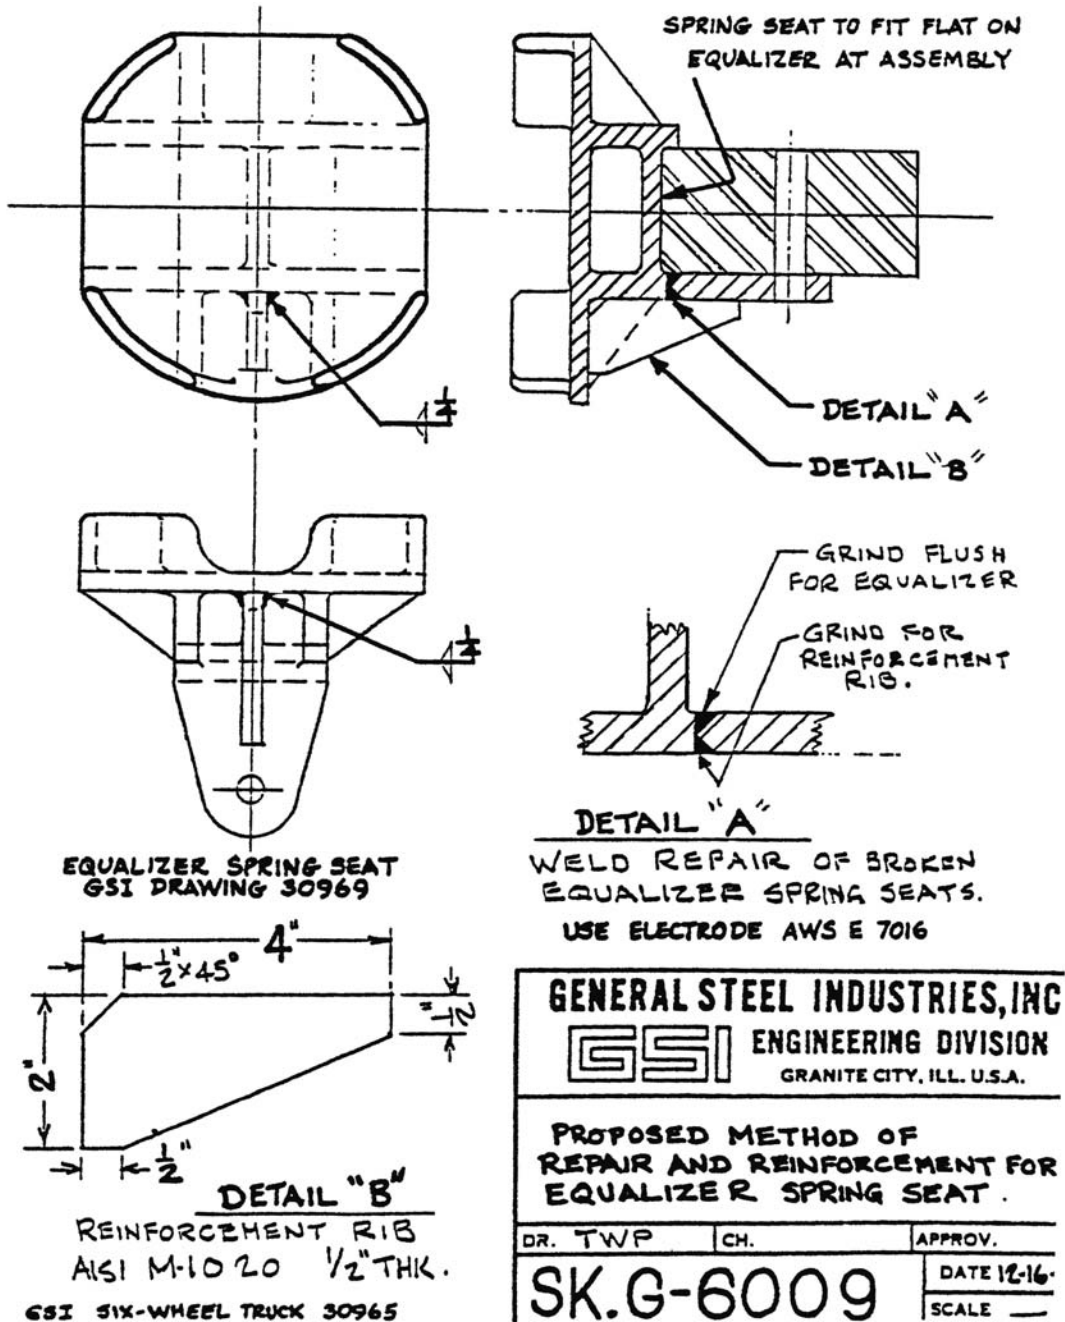

FIGURE 1
- 7.1** Repair of broken equalizer spring seats shall be as per General Steel Industries Drawing SK-G-6009 (Figure 1) attached.
- 7.2** Grind spring seat area as shown (Figure 1, Detail "A") flush for equalizer and for reinforcement rib.
- 7.4** Install reinforcement rib (Figure 1, Detail "B") and weld as shown (Figure 1, Detail "A" & "B") using electrode AWS E 7016.
- 7.5** The drawing (Figure 1) illustrates the method of repair and reinforcement for the equalizer spring seats of type shown.